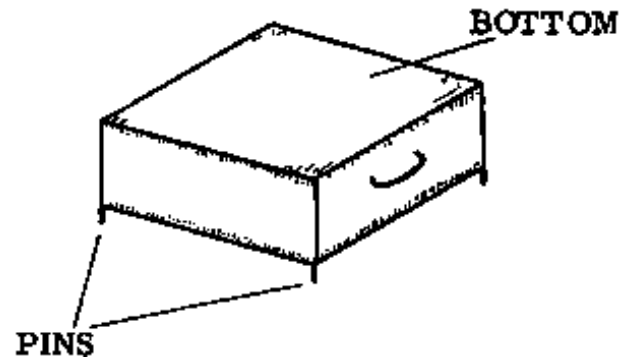

Fig. 6
- **NOTE:** To make it easier to empty the mould, short pins can be welded onto each corner at the top of the mould. This allows you to tap the pins gently on a hard, level surface; thus loosening the block from the mould (Fig. 6).